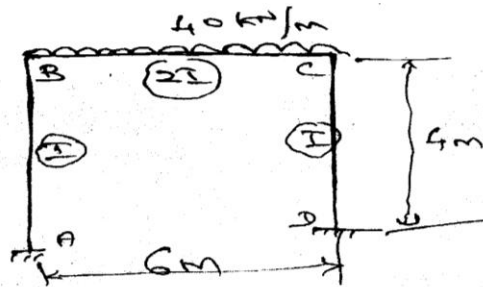

Figure-1
1. Analyze the frame shown in Figure-1 by consistent deformation method. Also, draw the Bending Moment Diagram (BMD).